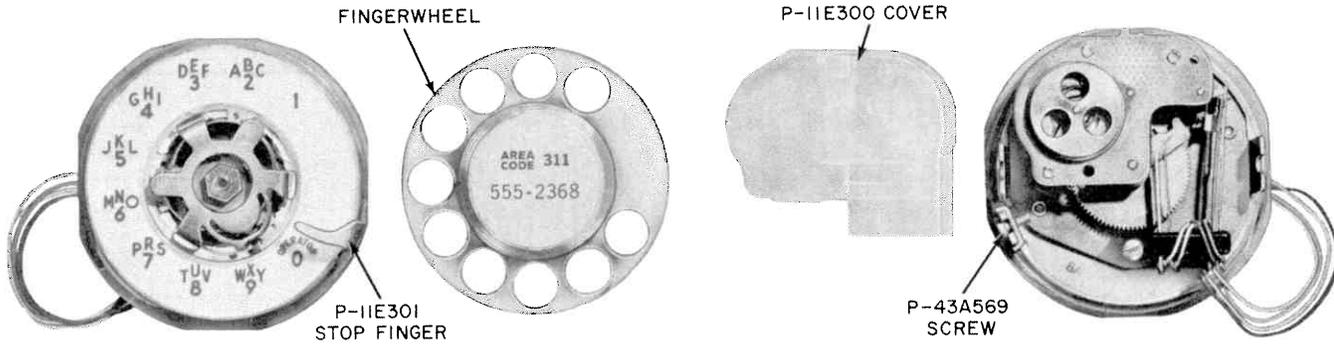

Fig. 8 — 8-Type Dial
2.05 See Tables H and I and Fig. 8 for use and assembly of parts and Table J for number plates.